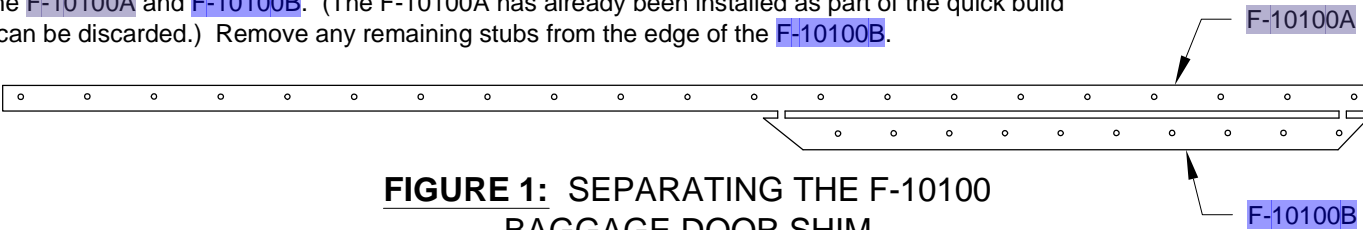

FIGURE 1: SEPARATING THE F-10100 BAGGAGE DOOR SHIM
Step 1 (Quick Build): Separate the F-10100 Baggage Door Shim, shown in Figure 1, into its component parts; the F-10100A and F-10100B. (The F-10100A has already been installed as part of the quick build kit and can be discarded.) Remove any remaining stubs from the edge of the F-10100B.